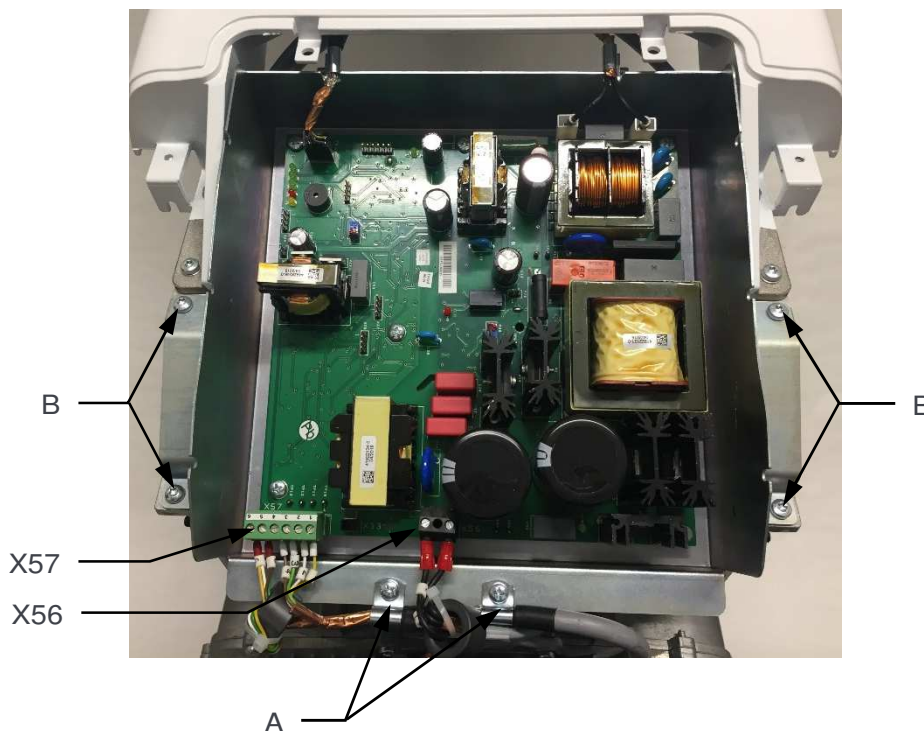

Figure 49
8. Connect X56 and X57 connectors and fix the cables fixing clamps “A” (Figure 49).